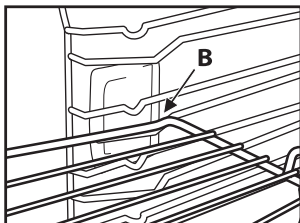

Fig. 2
2. Tilt the rack when it reaches the locking position "B" (Fig. 2).